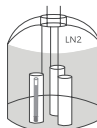

Figure 6. Dewar Filled with liquid nitrogen
- 7) Transfer the sealed container straw to the Dewar filled with liquid nitrogen (LN₂) (See Figure 6).